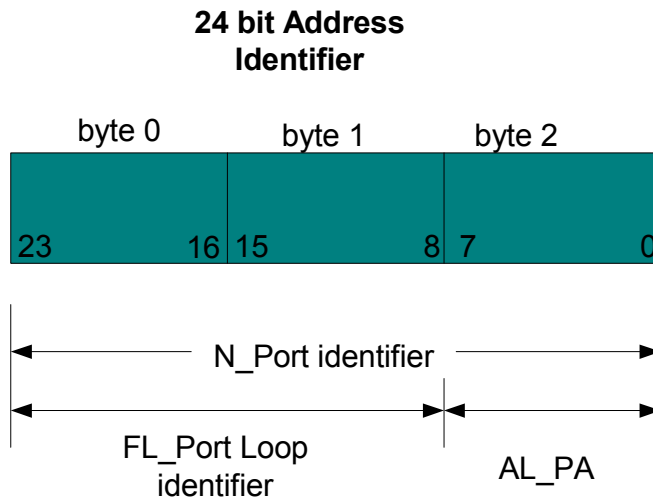

Figure 12 Loop addressing
Figure 12 shows the full 24-bit address defined by the Fibre Channel standard. Eight (8) bits used by the AL_PA. Bits 8 to 23 are used for the FL_Port identifier and the full 24 bits are used by an N_Port in a fabric switch environment.